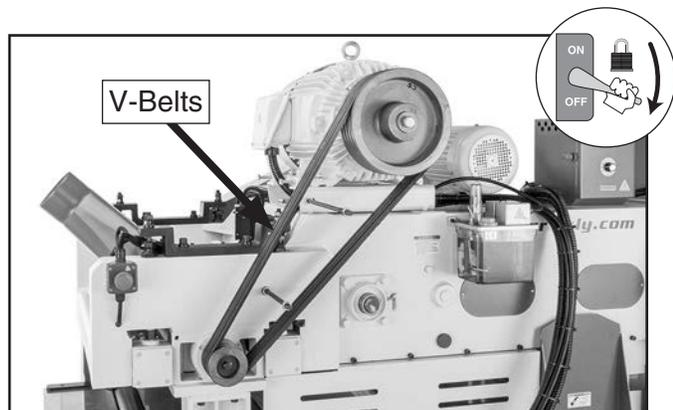

Figure 53. Upper cutterhead belt cover removed.
2. Open chain drive access door and remove upper cutterhead belt cover (see **Figure 53**).